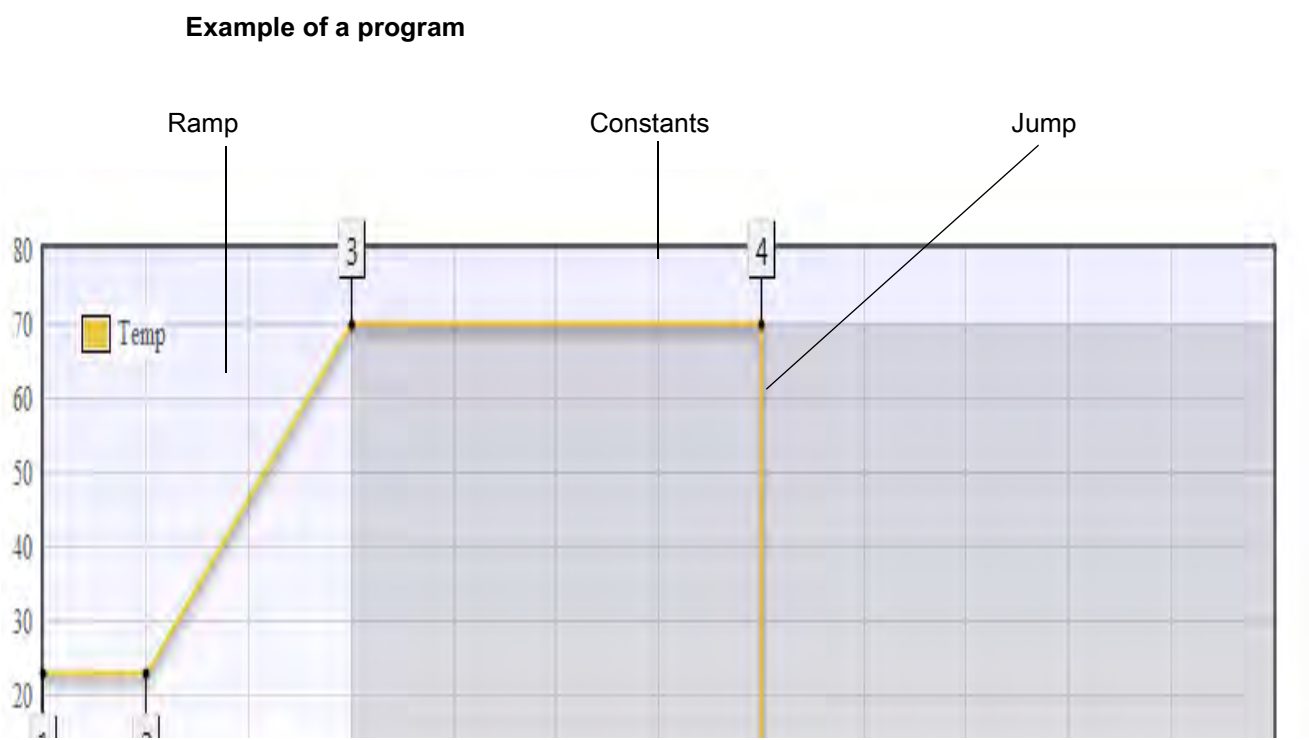

Fig. 6-1 Example of a program
If you want to program a ramp, such as between steps 2 and 3 in → *Fig. 6-1 »Example of a program«* (page 72), proceed as follows:
- ▶ Program another step. In doing so, copy the nominal temperature value from the previous step, but this time define the duration required for the constant, cf. steps 3 and 4, as well as steps 5 and 6 in → *Fig. 6-1 »Example of a program«* (page 72)
If you want to program a jump, such as between steps 4 and 5 in → *Fig. 6-1 »Example of a program«* (page 72), proceed as follows: